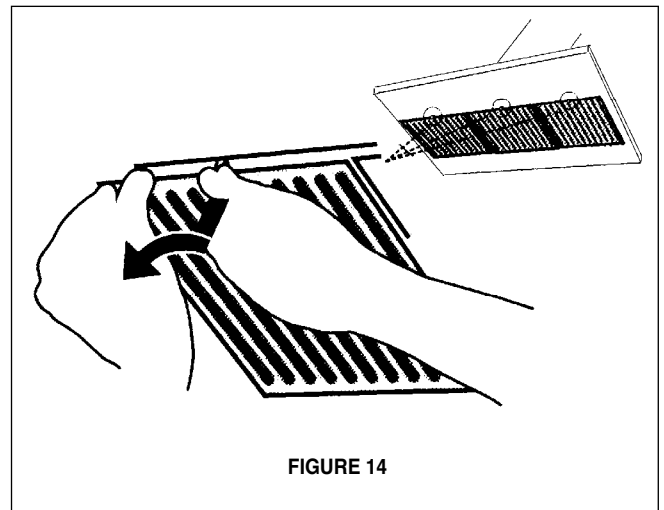

FIGURE 14
6. Install the grease filters using two hands by first pulling and turning the knob to the left so that the locking lever does not protrude from the filter (as in FIGURE 14). Insert the opposite end of the filter into the retaining channel. Insert the knob end next, then turn knob to the right to lock the filter into place.